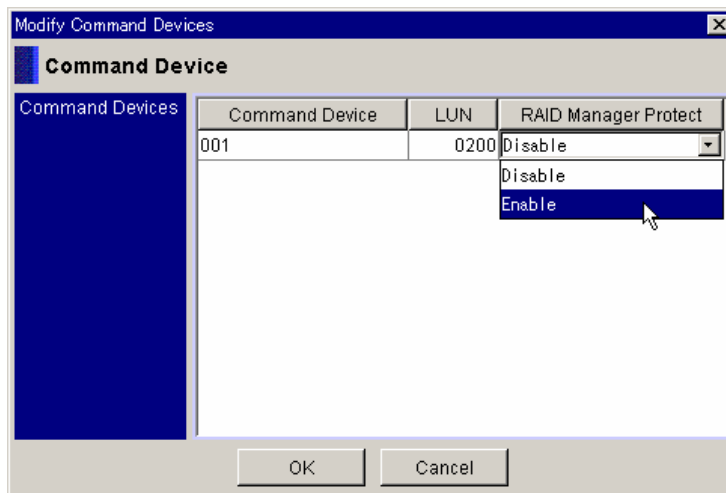

Figure 4.28 Modify Command Devices Window
2. Select the desired **Command Device** number, and then click **Modify** to display the **Modify Command Devices** window (see Figure 4.28).